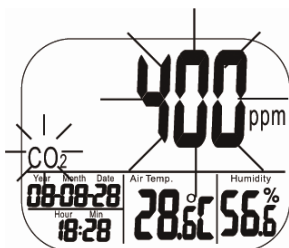

Fig. 21: Display during the CO2 calibration
- Turn on the meter and hold down SET, LOG/▲ and MIN/MAX▼ simultaneously and more than 1 second to enter CO2 calibration mode, Fig. 21.
400 ppm and CO2 are blinking on the LCD while performing calibration, Fig. 21. Wait about 30 minutes until the blinking stops and the calibration is completed automatically. The meter will return to normal mode now.